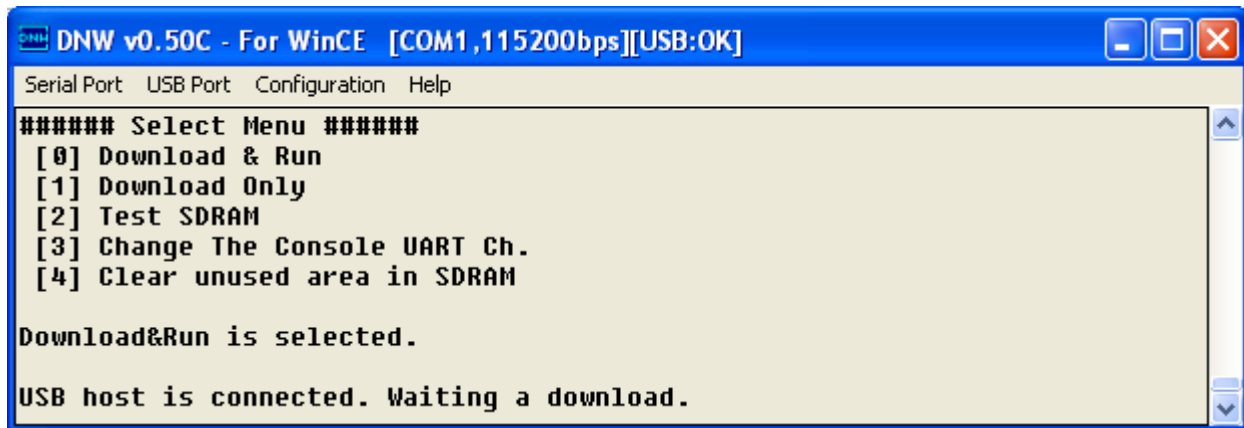

Figure 5-9 Download & Run
10. Enter 0 to download and run the Image on the board. DNW window appears as shown in figure 5-9.